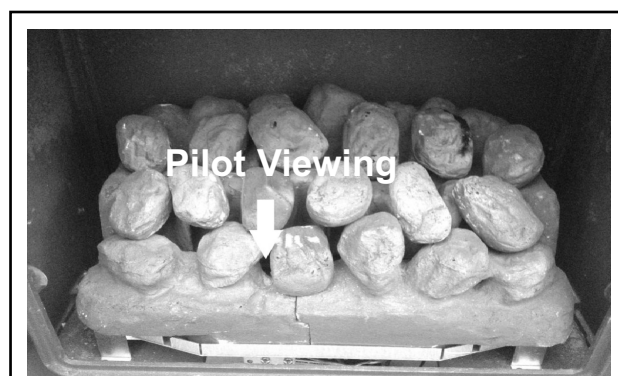

Figure 9a.
3. Turn the control knob clockwise to the 'Off' position. Repeat this operation until a flame appears at the pilot. The pilot can be seen by looking through the gap in the fuel effect (See figure 9a & 9b). There may be a delay before the pilot lights due to air being purged from the system. When a flame appears at the pilot keep the control knob depressed and hold the pilot ignition position for five seconds. When the control knob is released the pilot flame should remain lit.